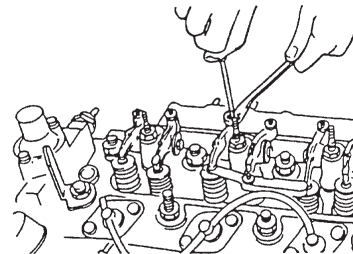

Figure 8: Valve Adjustment
5. To adjust, insert a thickness gauge in between the rocker arm and valve cap. Then loosen the lock nut and adjust the clearance between the rocker arm and valve cap of both the intake and exhaust valves with the adjustment screw (Figures 8 and 9). Clearance on intake and exhaust valves it should be 0.006 - .01 in. (0.15 - 0.25 mm).